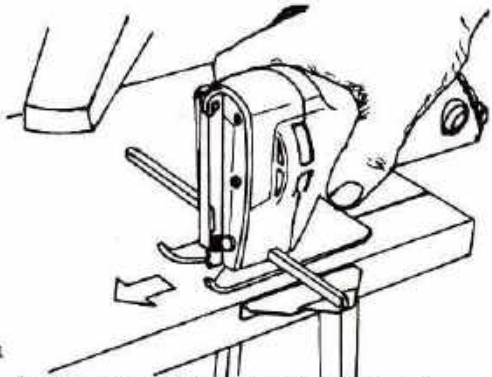

Fig. 652. RIPPING A BOARD WITH THE JIG SAW AND GUIDE
2. For ripping or cross-cutting narrow stock, fasten the guide in place and adjust it to the desired width. See Fig.652. If the piece to be cut off is wider than the guide permits, clamp a wooden fence (guide) on the board.